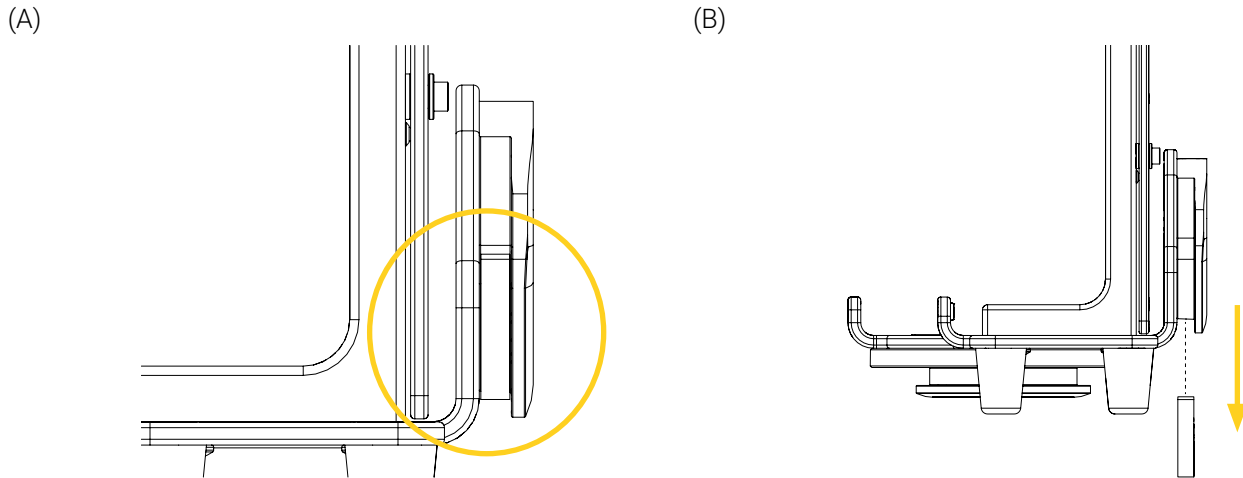

Figure 21: Removing the damaged strip
2. Remove the damaged silicone strip located under the anti-rotation micro disc (Figure 21). The strip will **not** be reused. Refer to your established internal protocols and the environmental laws that apply to your jurisdiction for the proper disposal of the part.